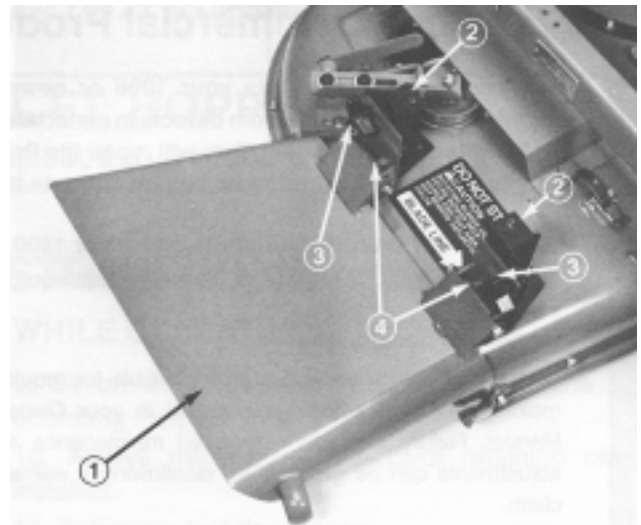

Figure 11
2. Position grass deflector mounts on outside of pivot brackets (included in kit) and secure parts together with capscrews, locknuts and washers previously removed (Fig. 11). Both locknuts must face each other. Tighten locknuts until they are flush against deflector pivots.